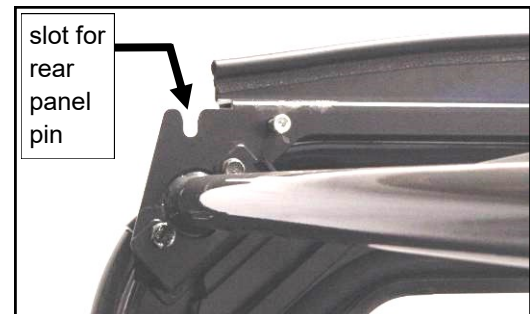

Fig. 4.4 (view of upper rear driver's side)
4.4 Orient the rear panel assembly with striker pins toward the inside of the cab. Hook the two upper pins into the receiving slots in the rear of the upper mounts that are shown in figure 4.4. Connect the rear panel lower tabs to the three rear panel lower mounts with 1/4-20 x 3/4" flanged hex head bolts and nuts. Be sure top pins are fully seated and tighten the three bolts of the lower mount assembly.